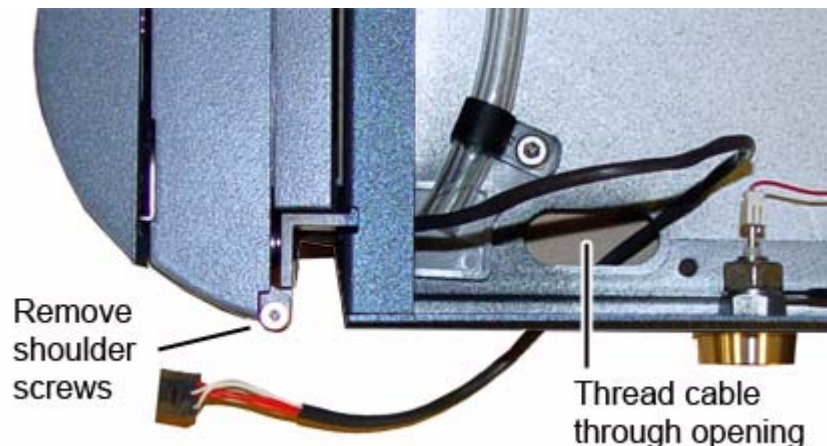

Figure 3 - Removing the Column Heater
5. Using the 2-mm hex screwdriver, remove the two shoulder screws on the top and bottom of the hinge located on the right side of the column heater front end (Figure 3).
7. Remove the column heater front end, carefully pulling the cable through the hole on the bottom right side of the column heater chassis (Figure 3).